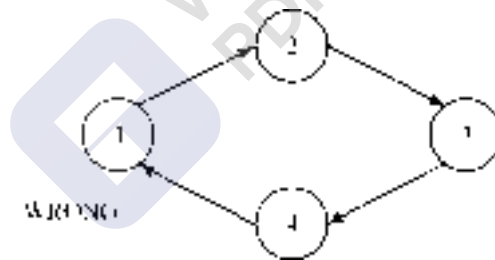

Figure 15.6. Looping is not allowed.
- (d) While writing network, looping should be avoided. This is to say that the network arrows should move in one direction, *i.e.* starting from the beginning should move towards the end, as in figure 15.6.